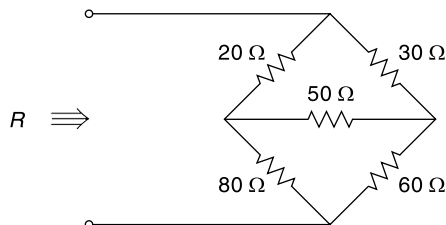

Fig. 4.57 Circuit of Ex. 4.40
4.40 Find the input resistance (R) of the network shown in Fig. 4.57.